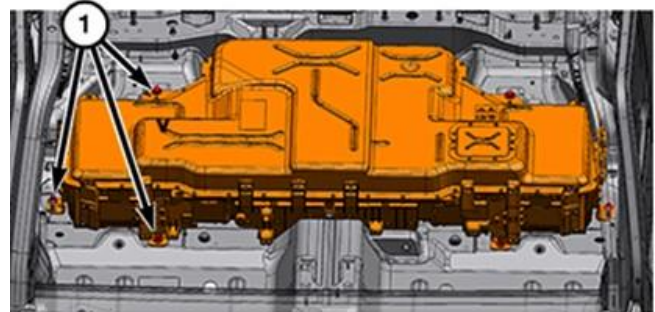

Figure 32 – HV Battery Bolts
56. Remove the bolts (1) securing the HV battery to the vehicle (Figure 32).
65. Install the HV battery pack bolts (1) and tighten to (Figure 32):